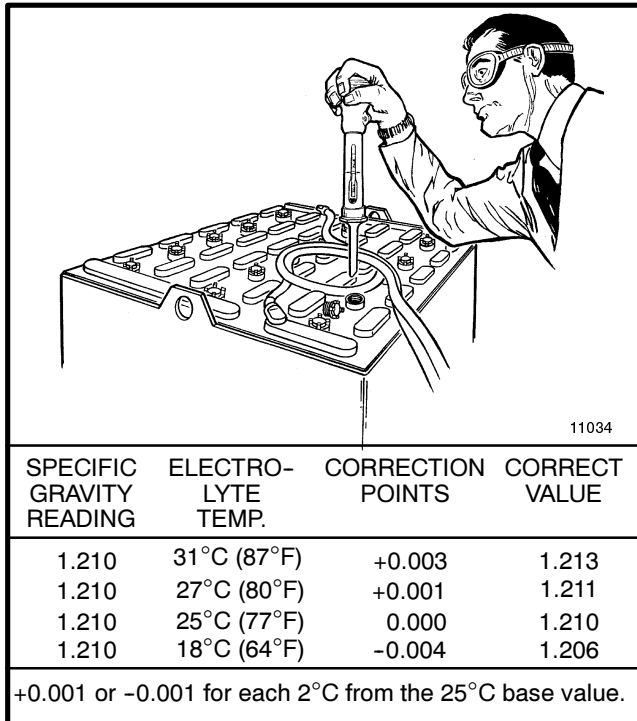

FIGURE 17. CHECK SPECIFIC GRAVITY
Correct use of the hydrometer (See FIGURE 17.) and proper operation of the battery charger is important. Follow the instructions of the charger manufacturer. Never let the battery discharge below the minimum value given by the battery manufacturer. A fully charged battery will have a specific gravity of 1.265 to 1.310 at 25°C (77°F). Never charge a battery at a rate that will
1. **NORMAL CHARGE:** This charge is the charge that is normally given to a battery that is discharged from normal service. Many users give this charge at a regular interval based on usage. This practice will keep the battery fully charged if the battery is not discharged below the limit. Always use a hydrometer (See FIGURE 17.) to check the battery if the interval charge cycle is used. Frequent charging of a battery that has 2/3 of a full charge or more can decrease battery life.